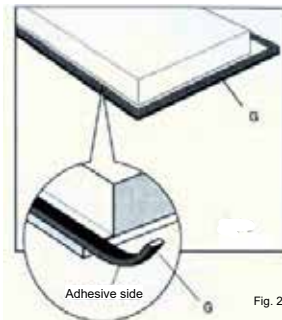

Fig. 2
Foam Tape-A foam tape is provided to seal the cooktop edges to the counter-top. Turn the cooktop upside down and apply the tape to the bottom edges of the frame. The tape should be approximately 1/16" from the edge of the frame sides and back, see Fig. 2.
- Turn adapter pin inside counterclockwise to release it from top cover assembly(Figure 2).